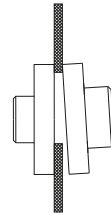

Figure 5a. Angular mistake on the horizontal plane and its correction
- In order to control the angular mistake, the distance between two parts of the coupling should be measured mutually on horizontal and vertical planes. The clearances measures at these four points should be equal (Figure 5a,5b).
- Adjustment mistakes may be on the horizontal and/or vertical plane. Mistakes on the vertical plane may be made by putting thin metal sheets under the pump or motor mounts and the mistakes on the horizontal plane by benefiting from the gaps in the connection holes or sliding the engine on the horizontal plane. Manner and order of the coupling adjustment is shown in the Figures 5a, 5b, 5c and 5d, respectively.